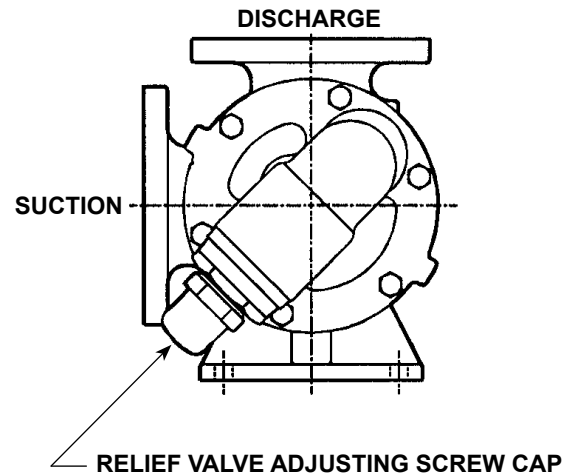

FIGURE 3
3. The relief valve adjusting screw cap must always point towards the suction side of the pump. Refer to **Figure 3**. If the pump rotation is reversed, remove the pressure relief valve and turn end for end (see **PUMP ROTATION** on **page 7** first for additional steps required for proper operation.)